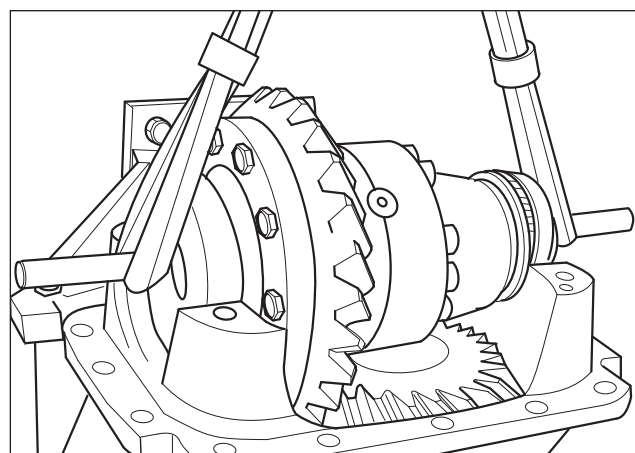

Fig. 2.12
12. Using suitable straps, hooks or cables, hook up the crown wheel assembly out of the carrier. (Fig. 2.12)